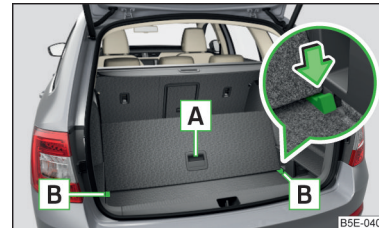

Fig. 146 Dividing the boot with variable loading floor
- › To **divide**, lift the variable loading floor by the handle **A** and push in the rear edge of the variable loading floor in the grooves **B** in the direction of the arrow » Fig. 146.